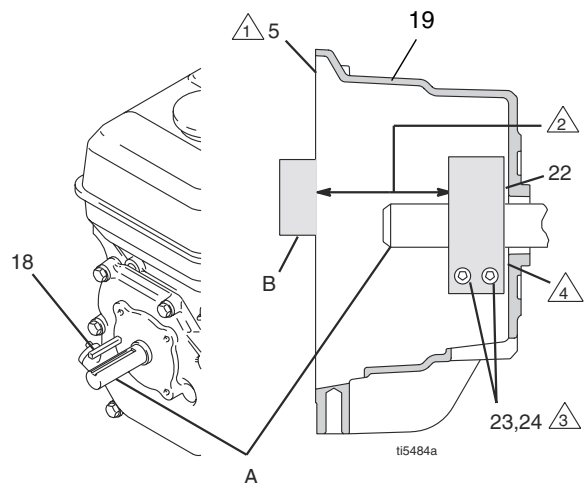

FIG. 10
4. FIG. 10. Loosen two screws (24) on clamp (22),
5. Push screwdriver into slot in clamp (22) and remove clamp.
1. FIG. 10. Install engine shaft key (18)
2. Tap clamp (22) onto engine shaft (A). Maintain dimension shown note 2. Chamfer must face engine.
3. Check dimension: Place rigid, straight steel bar (B) across face of clutch housing (19). Use accurate measuring device to measure distance between bar and face of clamp. Adjust clamp as necessary. Torque two screws (24) to 125 ±10 in-lb (14 ±1.1 N-m)
4. Install armature (25) on engine drive shaft.
5. Install four screws (23) and lock washers (24) with torque of 125 in-lb.